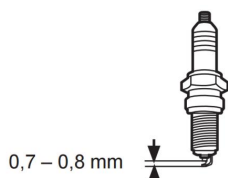

Fig. 79
6. Check the spark plug gap. It should be 0.7 – 0.8 mm (Fig. 79).